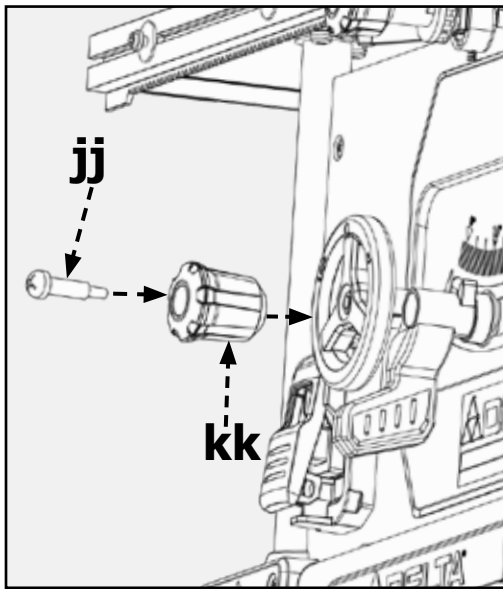
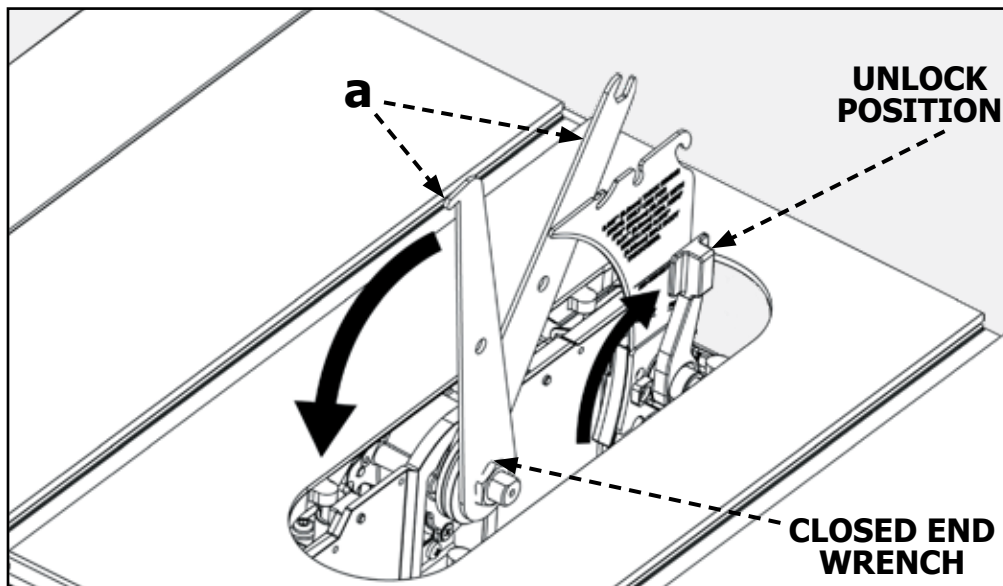

FIGURE 11a
FIGURE 12
1. Insert wheel handle shoulder screw (jj) into height adjustment wheel knob (kk) as shown in Figure 11a.
After installing height adjustment knob as shown in Figure 11a, raise motor/arbor assembly to the upper most position to provide easy access to riving knife lock lever and arbor assembly. Ensure riving knife lock lever is in unlock position. See Figure. 12. Detach the on-board wrenches located on the right side of the saw by loosening and removing M8 wing nut. Place the open-ended wrench (a) on the spindle shoulder between the arbor flange and inner flange. Place the closed end wrench (a) over the arbor nut. Holding the spindle shaft in place, loosen and remove the arbor nut and arbor flange. See Figure 12. **NOTE:** Use only 10" (254 mm) diameter blades with 5/8" (16 mm) arbor holes, rated at 5,000 rpm or higher, 0.10" (2.6 mm) min. kerf width and 0.073" (1.85 mm) max body thickness. Only use 10 in. blades designed for woodcutting. Use only a saw blade diameter in accordance with the markings on the saw.